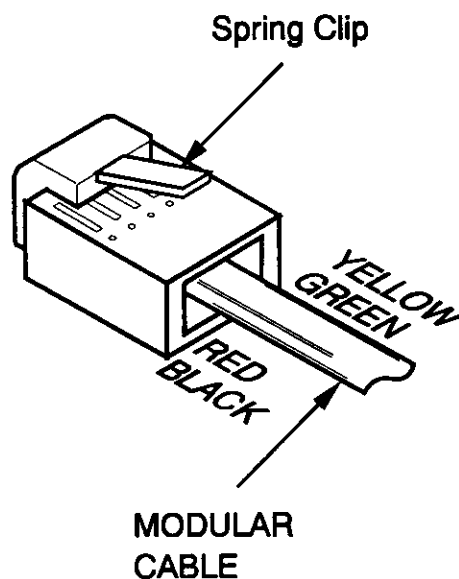

Figure 80, Modular Plug Installation Step 3
3. Place the modular plug onto the prepared end of the cable. While doing this, make sure the cable is oriented correctly in the modular connector. If the connector is to be plugged into the receiver, follow the color code shown in figure 80.